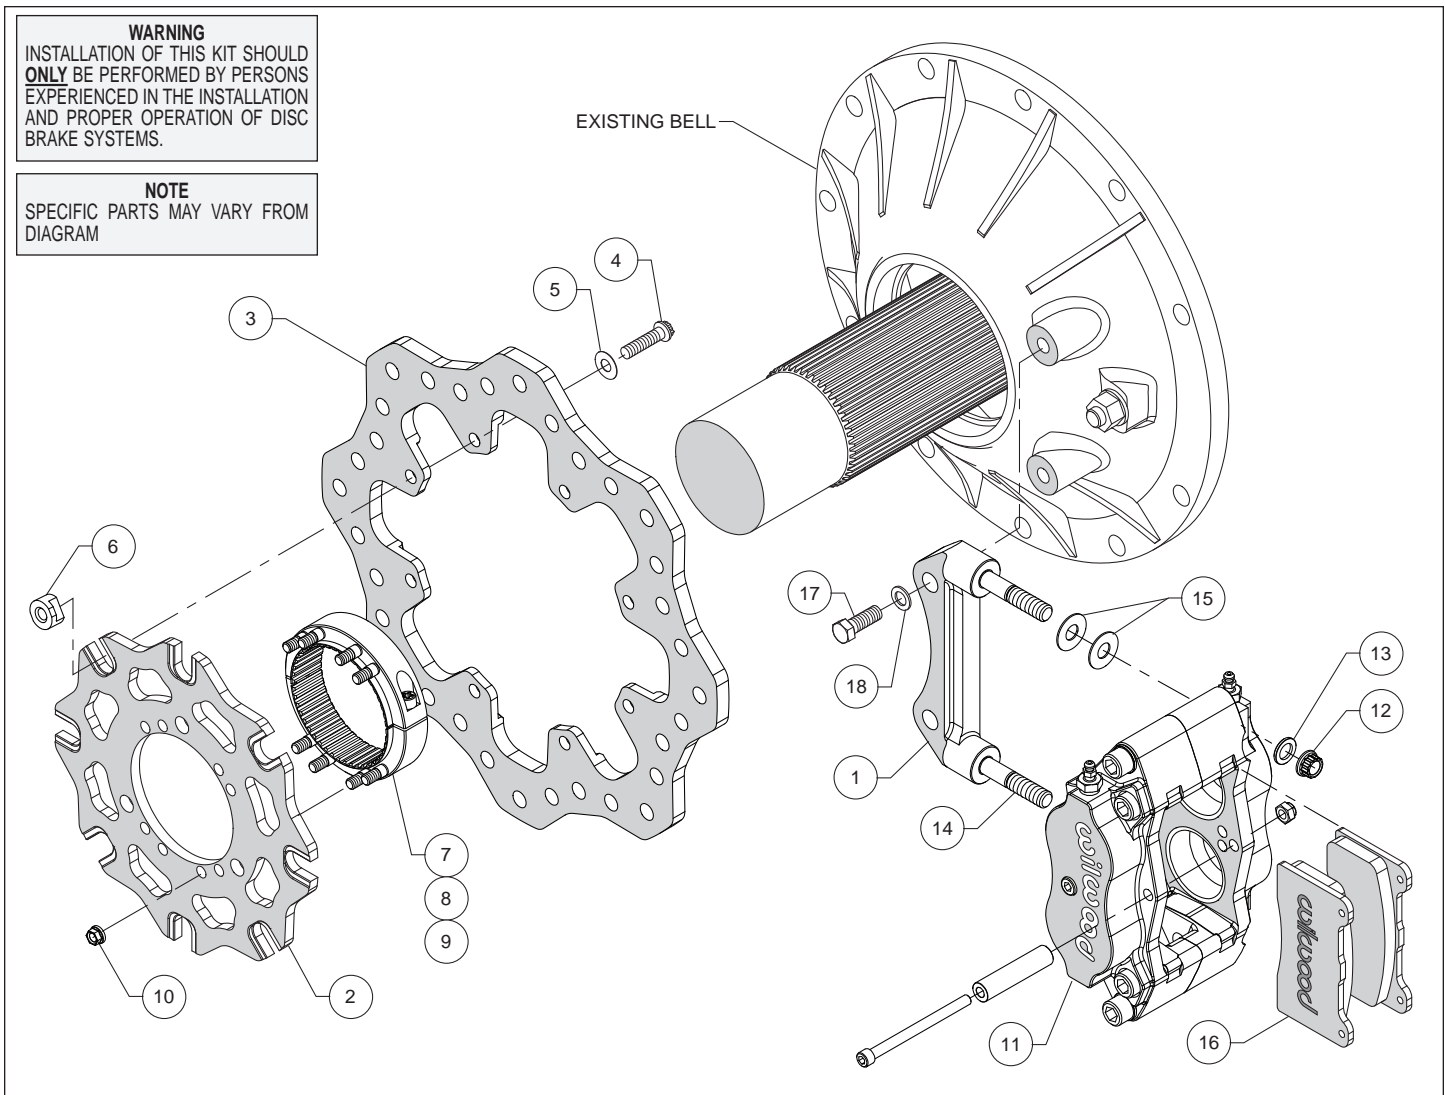

Figure 1. Typical Installation Configuration
• Orient the caliper mount bracket (1) as shown in Figure 1 and install using bolts (17) and washers (18). Temporarily tighten the mounting bolts. **NOTE:** The bracket must fit squarely against the mount bosses on the bell. Inspect for interference from casting irregularities, machining ridges, burrs, etc. Remove the bracket mounting bolts one at a time, apply red *Loctite*® 271 to the threads, and torque to 60 ft-lb.
• Orient the rotor adapter (2) and the rotor (3), as shown in Figure 1, and attach using bolts (4), washers (5) and t-nuts (6), Figure 1. Apply red *Loctite*® 271 to the bolt threads before installing. Finger tighten. After all t-nuts have been installed, torque bolts in an alternating sequence to 220 **in-lbs**. Please refer to Wilwood's data sheet DS-669 (available at [www.wilwood.com/Pdf/DataSheets/ds669.pdf](http://www.wilwood.com/Pdf/DataSheets/ds669.pdf)) for complete t-nut bolt kit installation instructions. **NOTE:** Rotor adapter may be fix mounted to rotor (instead of floating mount) using customer supplied hardware.
- Orient the axle clamp assembly (7, 8 and 9, pre-assembled) as shown in Figure 1 and install onto the rotor adapter (2) using nuts (10). Tighten nuts part way while still allowing clamp-to-adapter movement. The nuts will be torqued later, after aligning the rotor. **NOTE:** *The axle clamp should be positioned inside of the rotor as shown, not offset, or outside of the rotor adapter.*
- Lubricate the caliper mounting studs (14) with lightweight oil. Initially place two .035" thick shims (15) on each stud as shown in Figure 1. Mount the caliper (11) onto the bracket (1) using lock nuts (12) and washers (13), Figure 1. Temporarily tighten the lock nuts and view the rotor through the top opening of the caliper. The rotor should be centered in the caliper. If not, slide the rotor/adapter assembly on the axle until the rotor is centered in the caliper. Tighten the clamp bolts (9) first, locking the clamp to the axle. Torque nuts (10) to 140 **in-lbs**.
- Remove the caliper center bridge pad retainer bolt, nut, and tube from the caliper. Insert the brake pads (16) into the caliper, with the friction material facing the rotor. Check that the top of the brake pad is flush with the outside diameter of the rotor. If not, adjust by adding or subtracting shims (15) between the caliper and the bracket. After the caliper pad height is set, torque the caliper lock nuts (12) to 30 ft-lb. Secure the brake pads in place with the center bridge pad retainer tube, bolt, and locknut. The locknut should be snug without play in the bolt or tube. Be cautious not to over tighten.